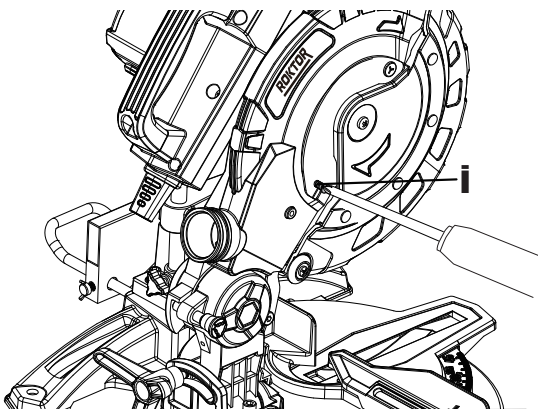

Figure 28
- 3) Loosen the screw (i) from the lower left of the upper fixed guard as shown in Fig. 28.